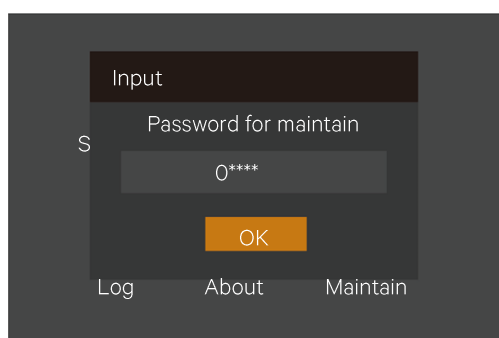

Figure 5-19 Inputting password
2. Press the key, the interface shown in Figure 5-19 is displayed.